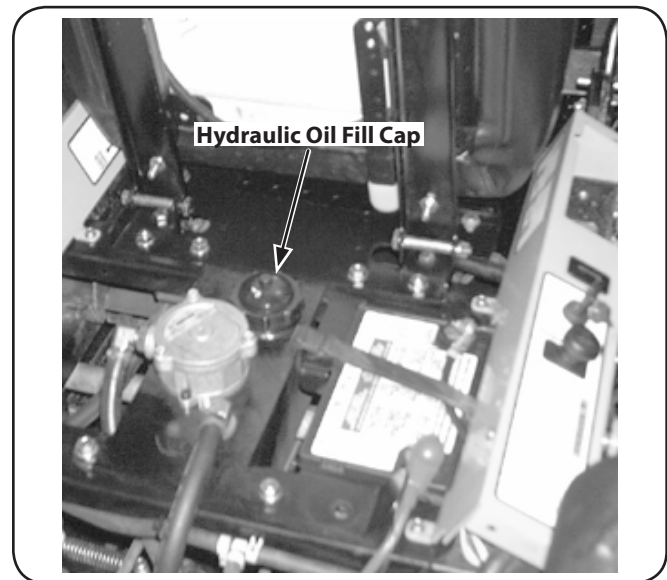

Figure 6-2
3. Clean the area around the Hydraulic Oil fill neck. See Fig. 6-2.